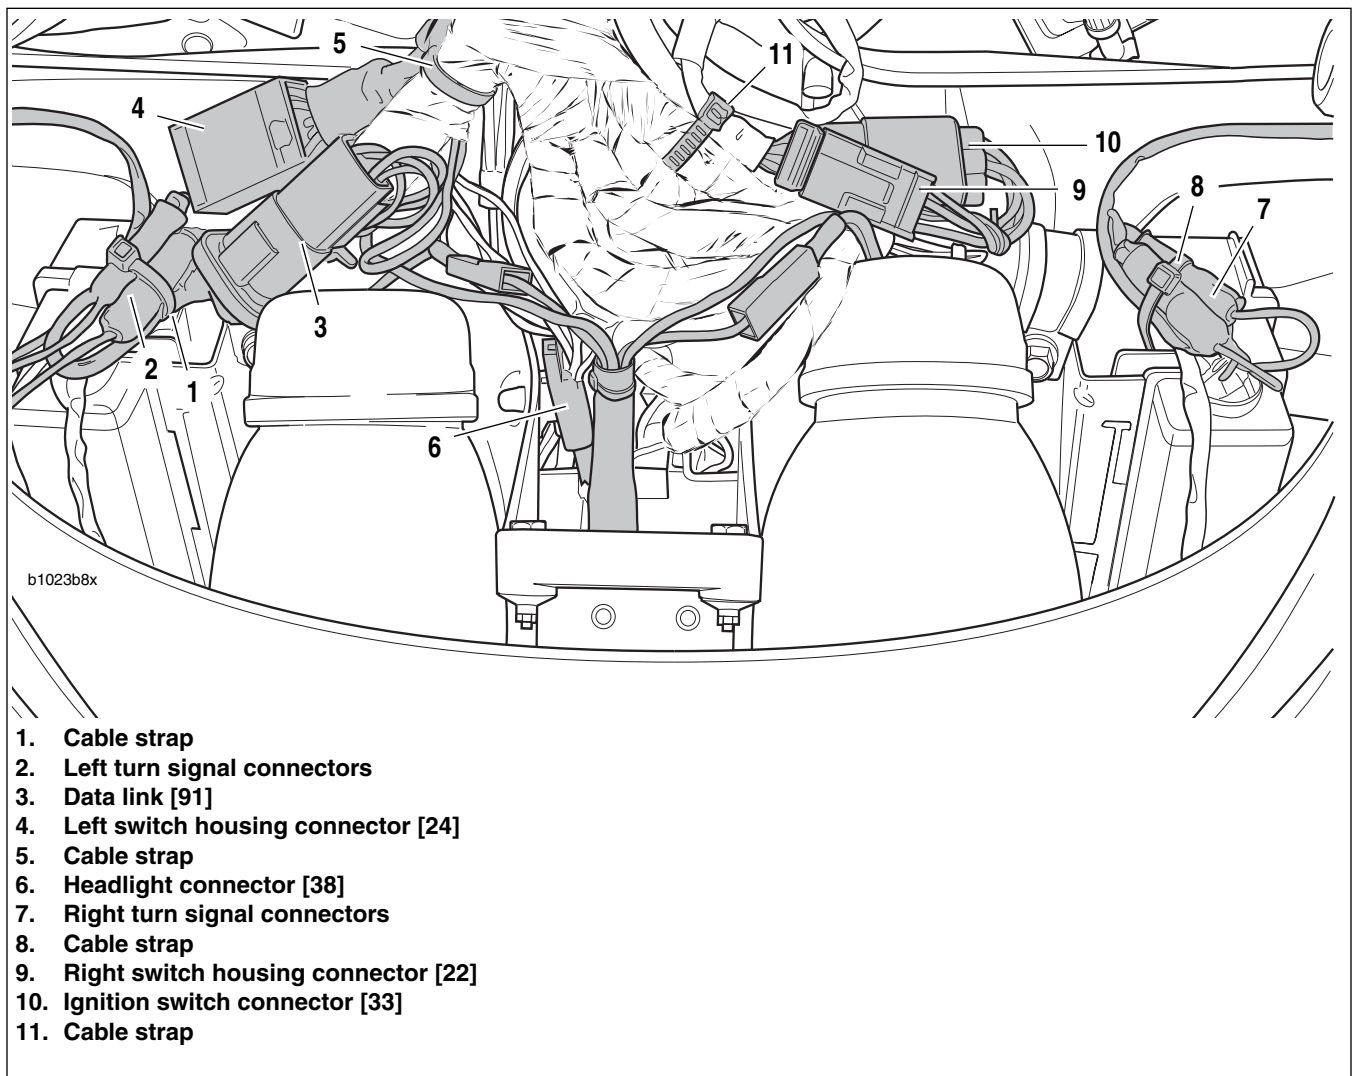

Figure 7-82. Fairing Wiring (viewed from underneath fairing)
17. See Figure 7-82. Verify proper fairing wire routing and cable strap locations.